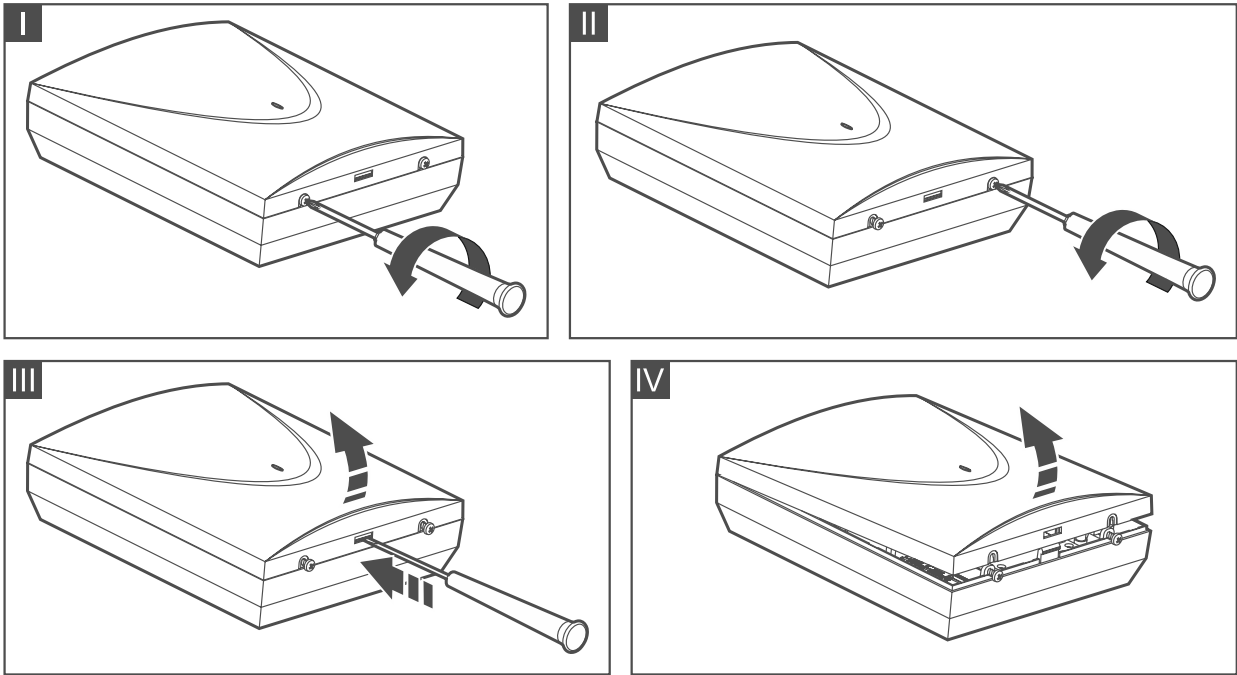

Fig. 12. Opening the OPU-2B enclosure.
1. Loosen the screws locking the enclosure cover and remove the cover (Fig. 12).